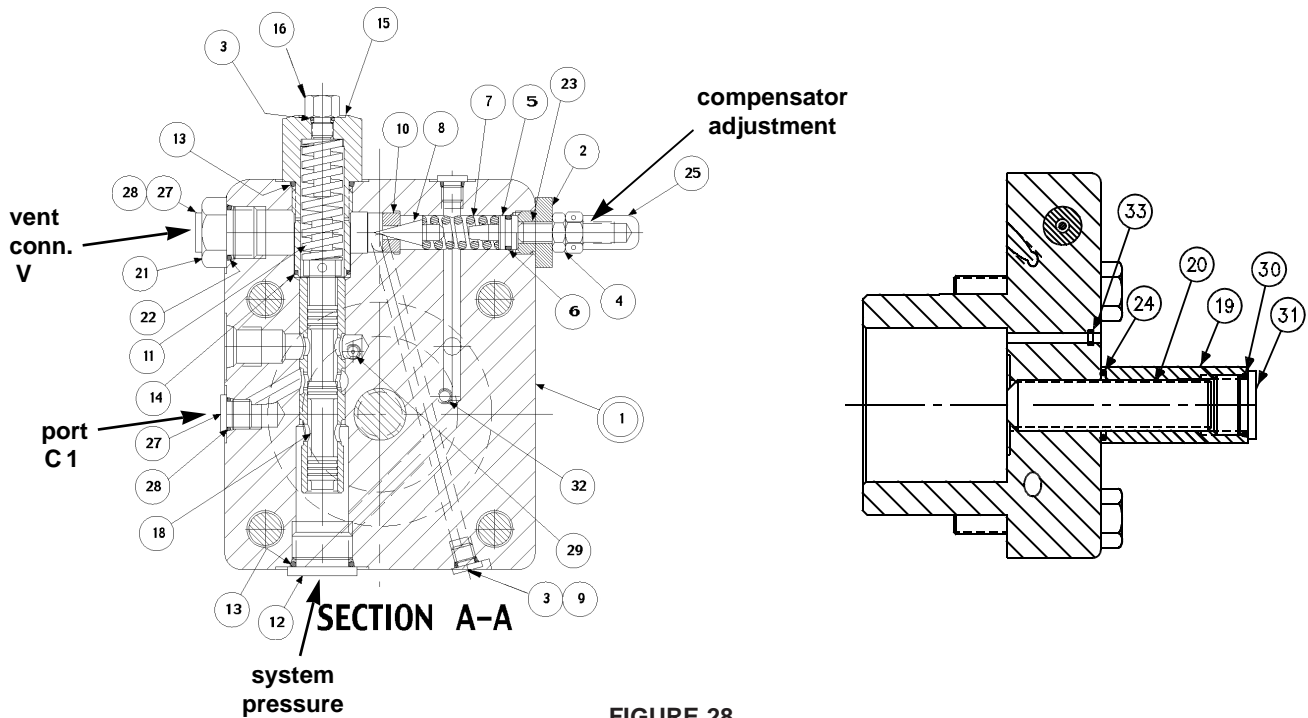
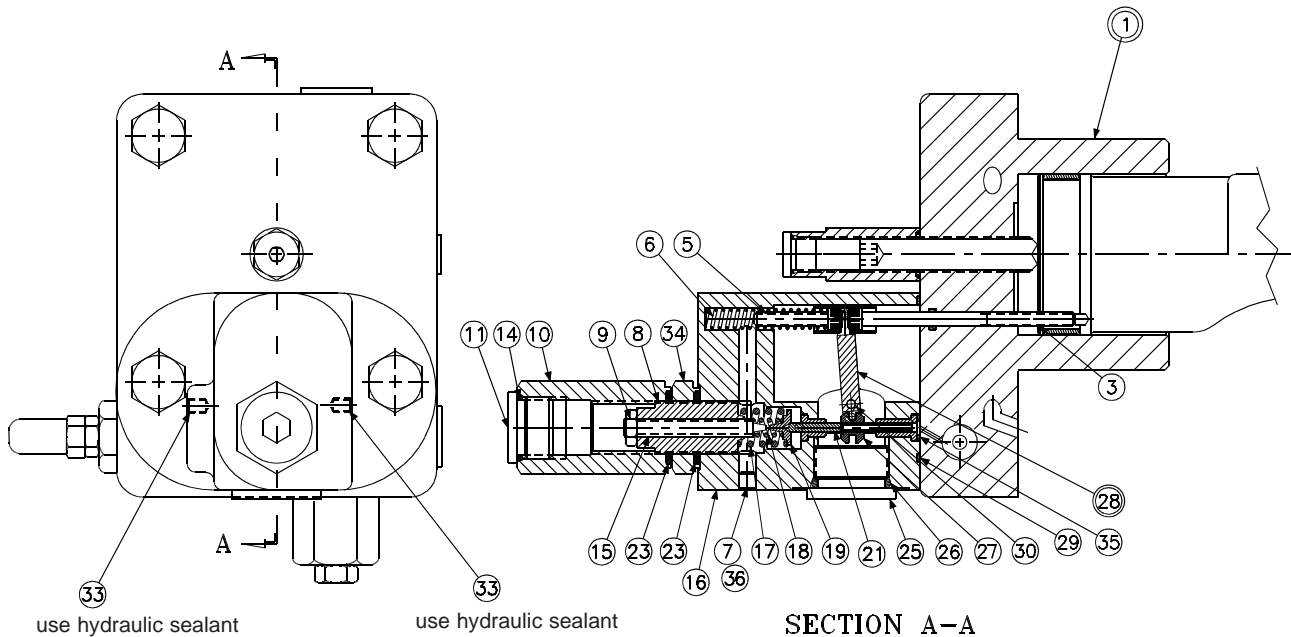

FIGURE 28
FIGURE 29
PARTS LIST FOR FIGURE 28
PARTS LIST FOR FIGURE 29
1. **See figure 29.** Remove 2 screws holding torque limiter body (16) to cap assembly (1).
2. Remove all parts from torque limiter body (16) except pin (30) and arm assembly (28). It is not necessary to remove these parts unless broken or worn. Examine parts for wear or damage.
3. Remove screw (3). Examine head for excessive wear, and body for smooth sealing surface with O-ring.
4. **See figure 28.** Remove maximum volume stop assembly (items 19, 20, 24, 30, 31).
5. Remove cap assembly (1).
6. Remove plug (15) and attached parts. Remove spring (11) and spool (18).
7. Remove adjusting plug (2) and attached parts. Remove seal piston (5). Note: a 10-24 screw may be attached to assist in pulling the piston. Remove spring (7) and cone (8).
8. Do not remove sleeve in body (1). Sleeve is pressed into cap and finished to size. If sleeve, snout or cap is worn, replace the cap-sleeve assembly (1).
9. Examine seat (10) for wear. Do not remove unless damaged.
1. **See figure 28.** Install plugs (9) and o-rings (3) orifice (29) and screw (32).
2. Press seat (10) into bore squarely against shoulder in bore.
3. Install spool (18) into bore as shown. Install spring (11) over end of spool. Install plug with stop (16) into plug (15). Install plug (15) into cap.
4. Install O-ring (6) on seal piston (5).
5. Lubricate O-ring and install cone (8), spring (7) and seal piston into bore in cap (1), being careful that cone enters seat (10). Install adjusting plug (2), screw (25), nut (4), and acorn nut (25).
6. Install plugs (12), (21) and (27) and torque.
7. Carefully install O-ring (33) into the cap.
9. Install maximum stop screw (20), cover (19), O-ring (24) and plug (31) with O-ring (30).
10. **See figure 29.** Apply thread locking compound on threads of screw (3), lubricate the shank, thread through the cap into the control piston, and torque to 5 lb. ft. (6,78 Nm).
12. Press dowel (30) into body (16), through the link assembly (28), to 1/4 (6.35 mm) below surface. Apply hydraulic sealant to threads of screws (33) and install over dowel (30).
13. While sleeve (27) is engaged into dowel on link (28), slide spool (21) into bore of body (16), and through sleeve (27). Spool (21) must move freely and easily at all positions of the link (28).
14. Assemble remaining parts per drawing. Torque plug (11).
15. While spring retainer is engaging clevis pin (5) under dowel of link (28), slide the other opening of spring retainer over the top of the screw (3). Attach body assembly (16) to cap (1), and torque assembly screws to 75 lb. ft. (102 Nm).